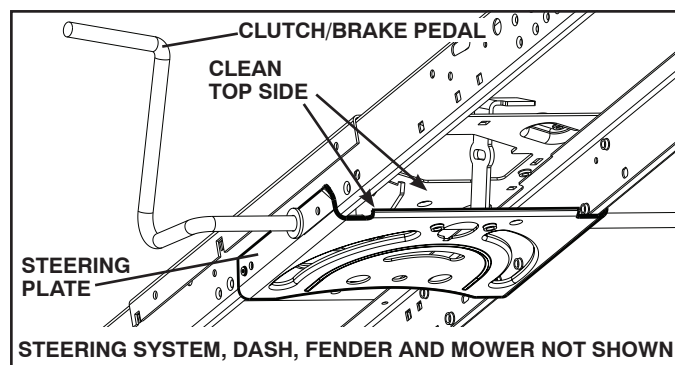

Fig. 21
- Clean debris from steering plate. Debris can restrict clutch/brake pedal shaft movement, causing belt slip and loss of drive. (See Fig. 21)